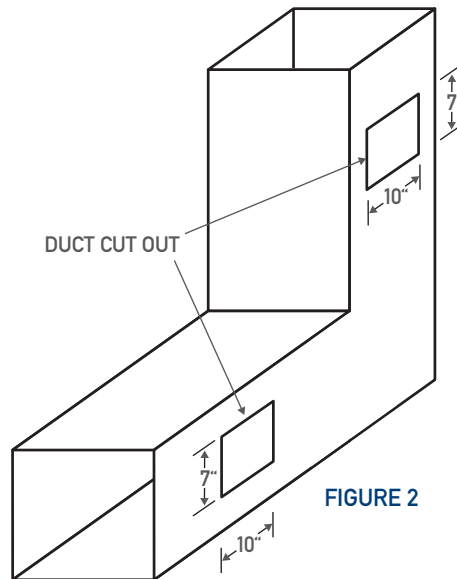

FIGURE 2
2. Cut a rectangular hole in the duct 10 inches by 7 inches. See Figure 2.